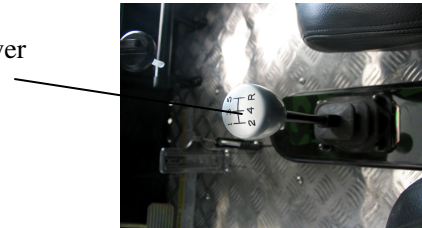

Fig 7
(7) Gear shifting (Fig 7)
(8) The gear shift lever controls velocity of the kart (Fig 7)